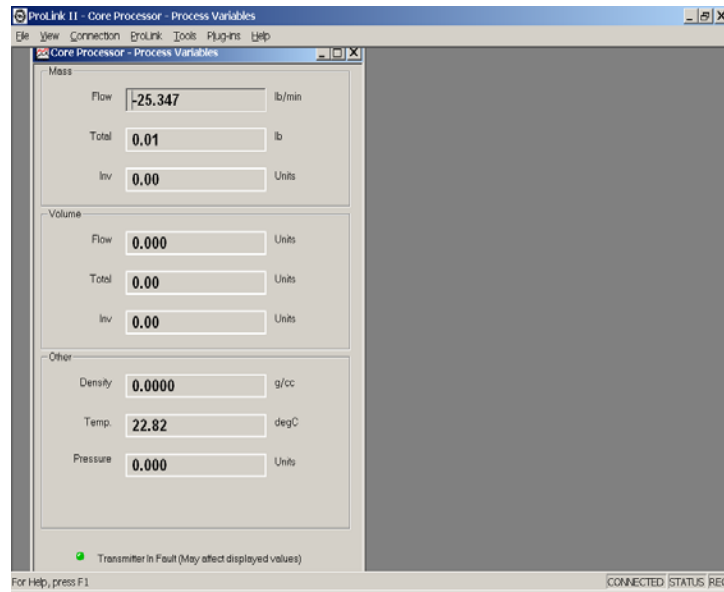

Figure 2
7. Return to the Process Variables window (Figure 2).